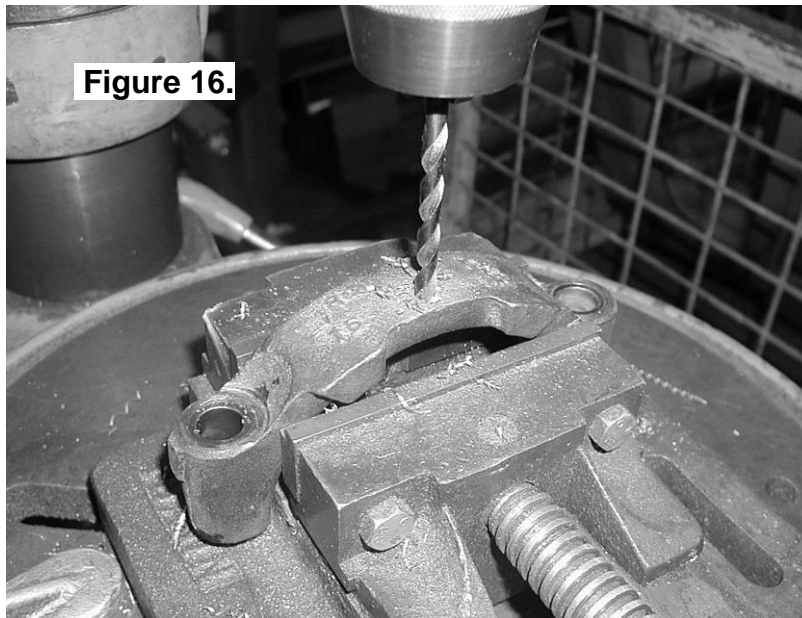

Figure 16.
- Using a pedestal drill, drill a 6.35 [1/4"] hole through the bearing cap where the seal housing tube hole has been marked. (Fig.16.)